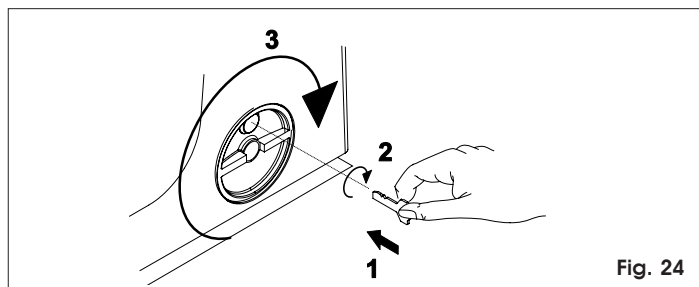

Fig. 24
- 1) Fit the supplied key in the lock and turn it clockwise as shown in figure 24.
- 2) Turn the release system by about 180° clockwise, as shown in figure 24.